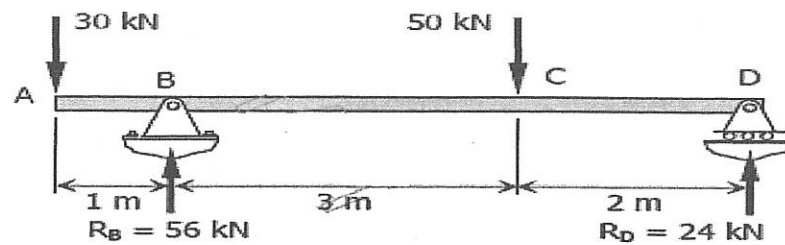

Figure 4a/ Rajah 4a
- (a) An overhang beam 6m length was subjected to a point load of 30kN and 50kN as shown in Figure 4a. Draw the shear force and bending moment diagram of the beam. Given the reaction $R_B = 56\text{kN}$ and $R_D = 24\text{kN}$.